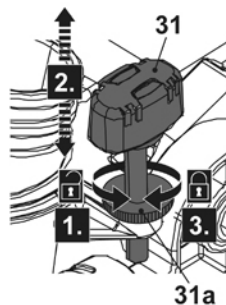

Fig. 11
- > Loosen the locking nut (31a) (Fig. 11, step 1).
- > Turn the cutting depth gauge (31) clockwise to decrease the cutting depth (e. g. for non-through cutting operations such as grooving / slotting) (step 2).
- > Turn the cutting depth gauge (31) anticlockwise to increase the cutting depth.